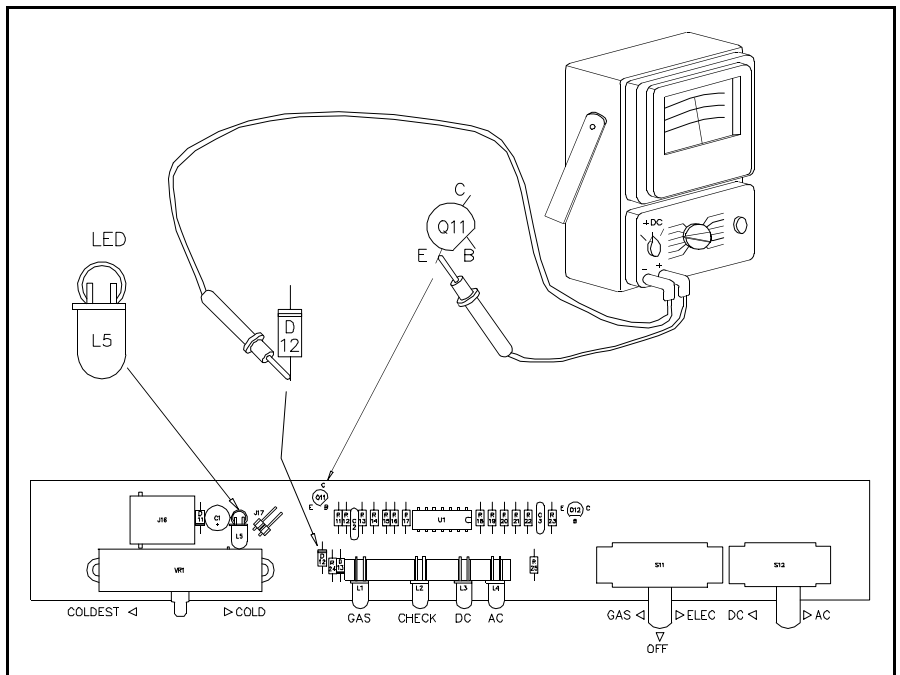
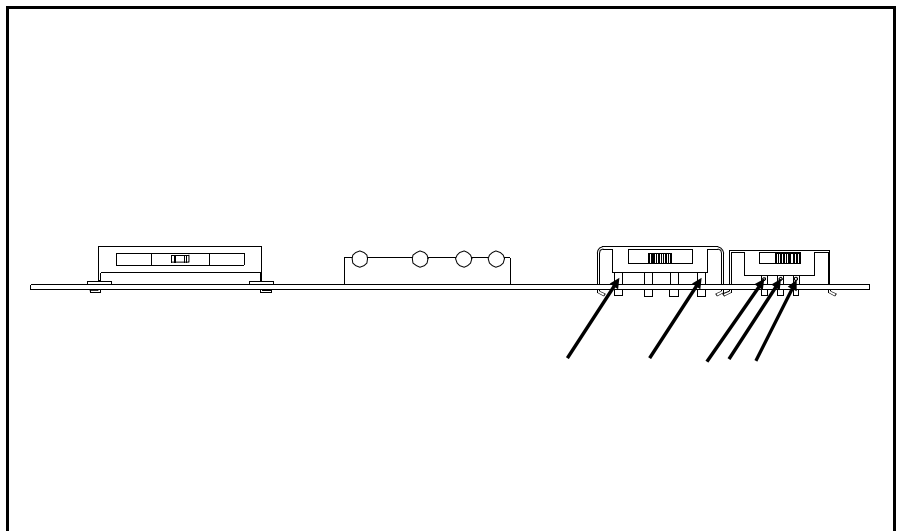

Figure 5.29 12 Volt Check On Eyebrow Board
Figure 5.30 Control Voltage Check
8. Reconnect the cable to the Power Supply. Set the Mode Selector to OFF as shown in Figure 5.29.
15. Set the Mode Selector switch to the OFF position as shown by Figure 5.29.
16. Connect a volt meter as shown in Figure 5.29.
22. With the volt meters negative lead connected as shown in Figure 5.29, check the switch terminals shown in Figure 5.30.
24. Set the Mode Selector to Gas Mode. With the Volt meter negative lead connected as shown in Figure 5.29, check Point A shown in Figure 5.30. You should measure approximately .5 Volts DC. If not, replace the Eyebrow Board.